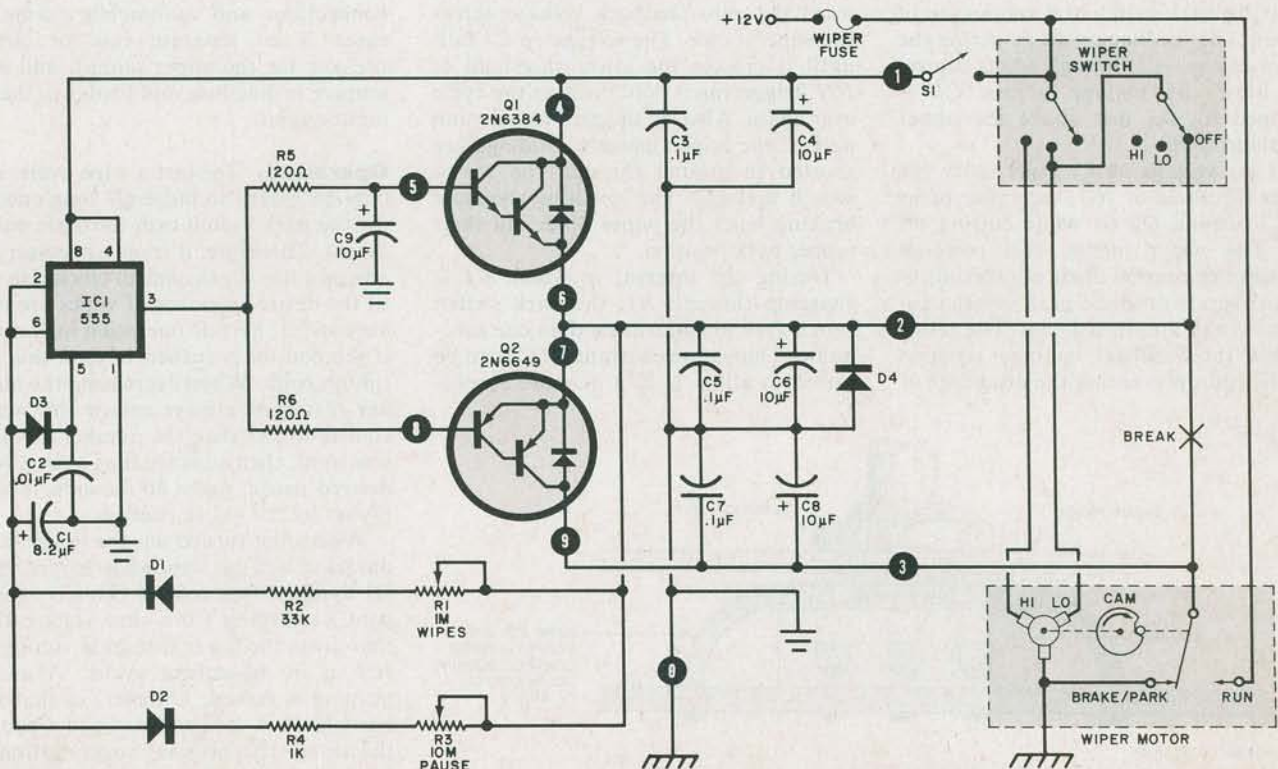

Fig. 2. The Auto-Wiper connects between the wiper switch and wiper motor after one lead is broken.
**How It Works.** As shown in Fig. 2, the 555 timer, IC1, configured as a gated astable multivibrator with independently adjustable "on" and "off" times, derives its feedback from the voltage across the wiper motor. This voltage, governed by the park switch, pulses in synchronization with the wiper blades. Hence, the timer is controlled by the wipers themselves in addition to its "on" (WIPES, R1) and "off" (PAUSE, R3) time constants.